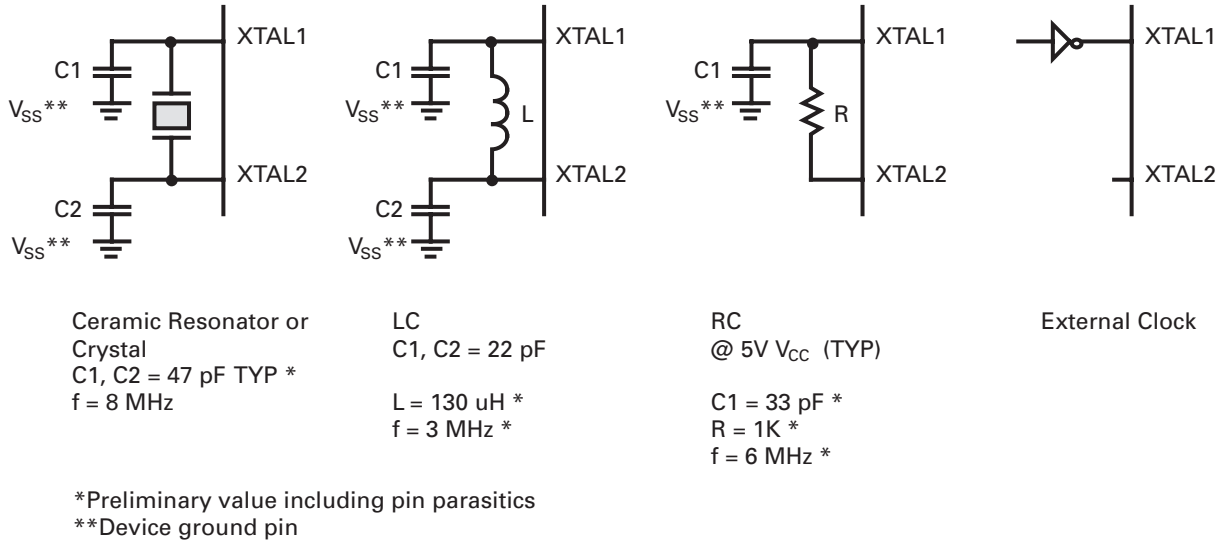

Figure 24. Oscillator Configuration
**Notes:** The RC option is available up to 8 MHz. The RC oscillator configuration must be an external resistor connected from XTAL1 to XTAL2, with a frequency-setting capacitor from XTAL1 to Ground (Figure 24).